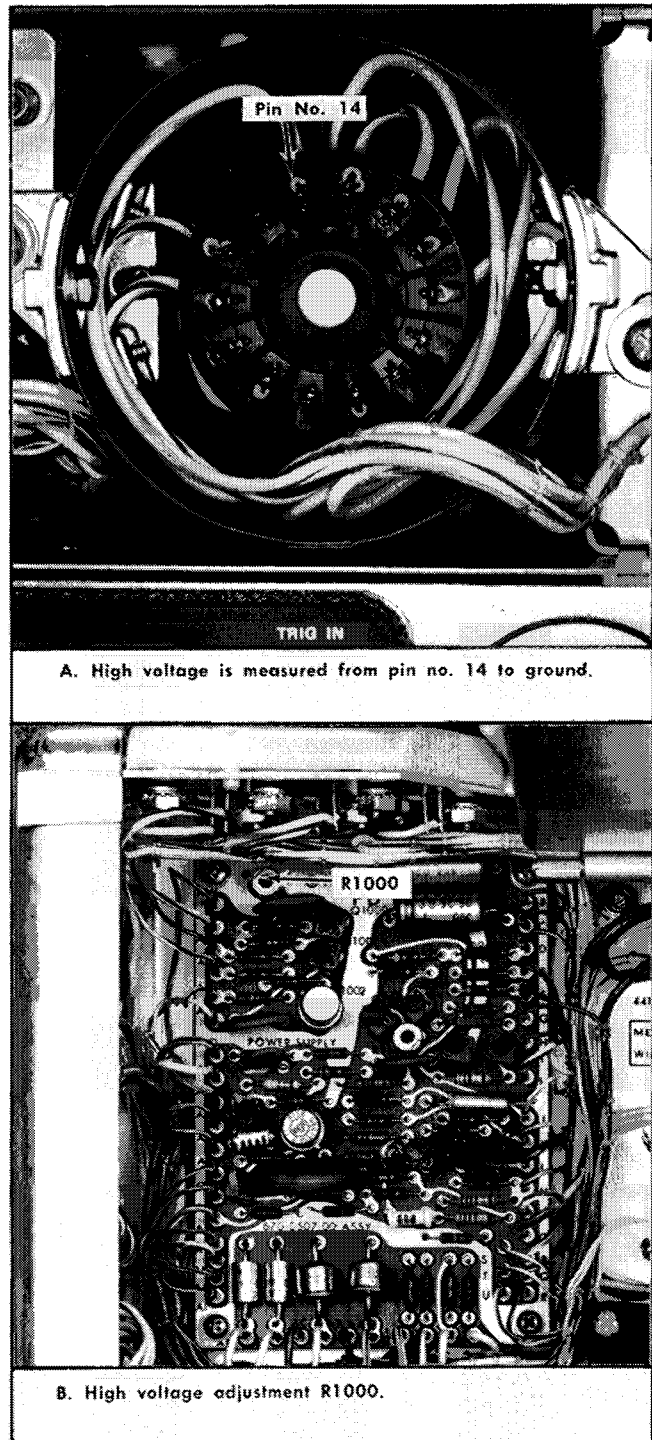

Fig. 6-6. Adjusting the -3670 V supply.
- c. Connect the voltmeter between pin 14 of the CRT base socket and chassis ground. (See Fig. 6-6). Set the voltmeter range to measure approximately 4000 volts.
- d. Turn the POWER switch to ON and adjust the High Voltage Adj R1000 (Fig. 6-6) for a meter reading of —3670 volts.